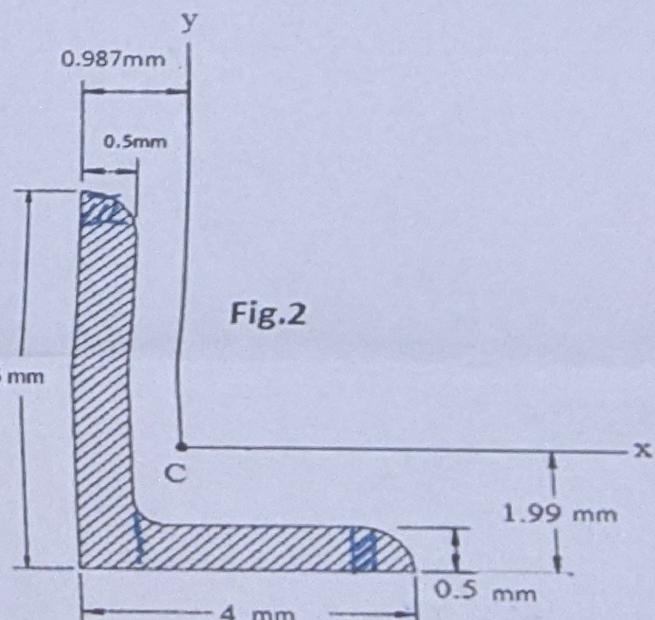

Fig.2
3. Determine the principal moments of inertia of the standard rolled-steel angle section with respect to the given centroidal x and y axes(Fig.2). $I_x=17.40 \text{ mm}^4$ and $I_y=6.27 \text{ mm}^4$ (Fig.2)